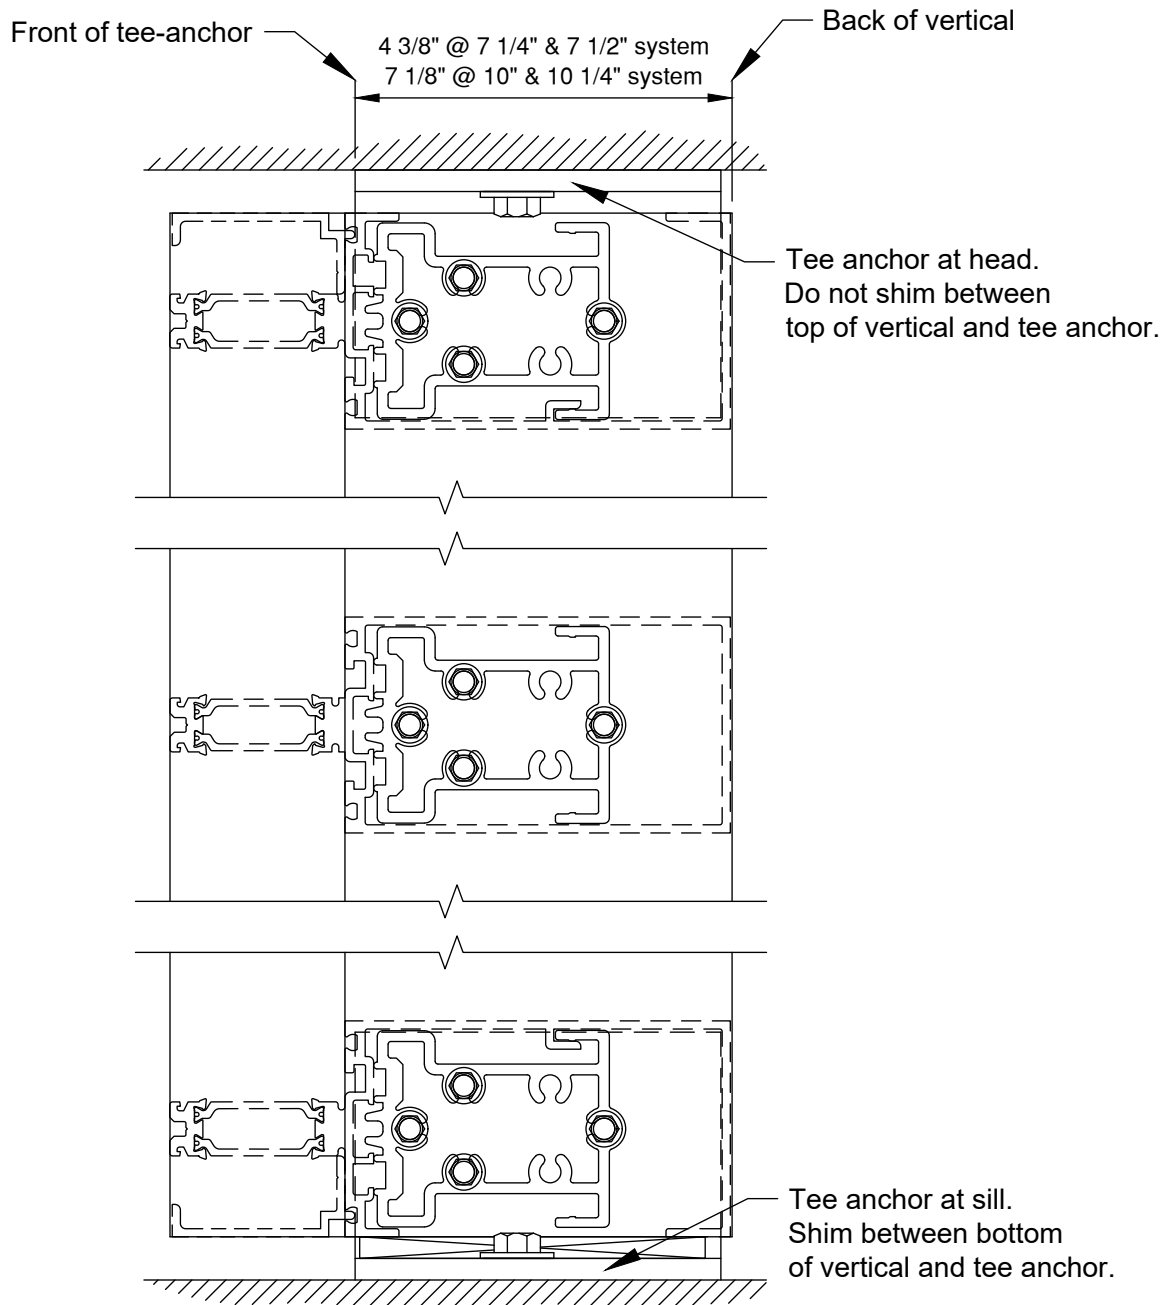

FIGURE 4
2.1.1 Attach shear blocks to all vertical members. **SEE FIGURE 4** for proper orientation on mullion.